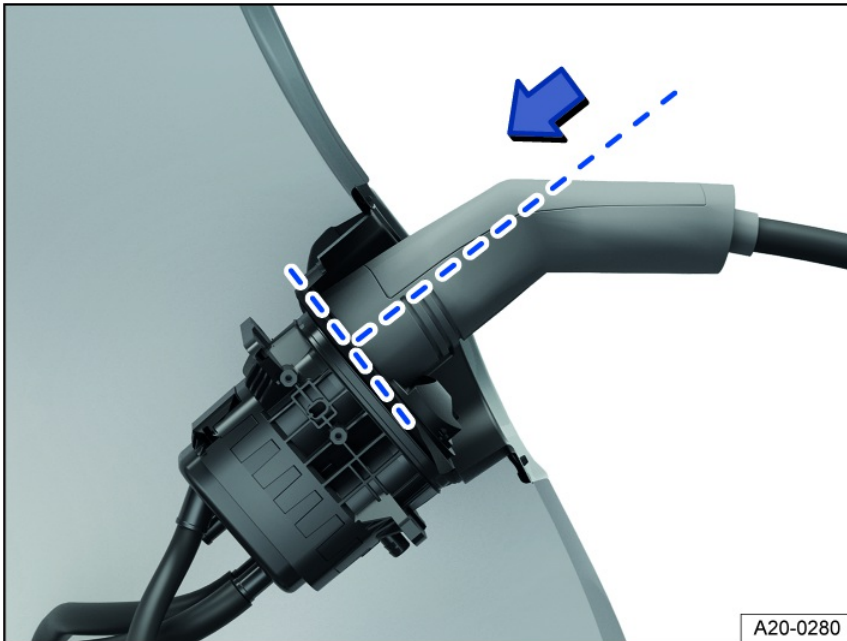

Fig. 130 Fully inserted charging connector (general example).
4. Insert the charging connector straight into the charging socket and check whether it is fully inserted fig. 130.